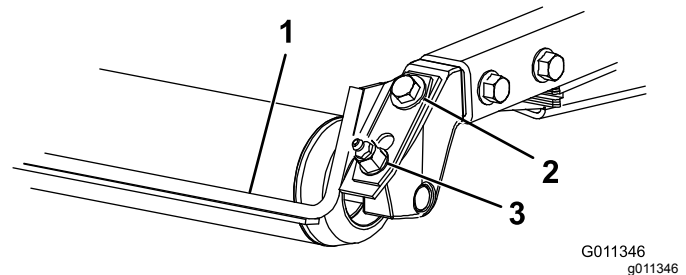

Figure 6
1. Loosen the grease fitting and the mounting screw (Figure 6).